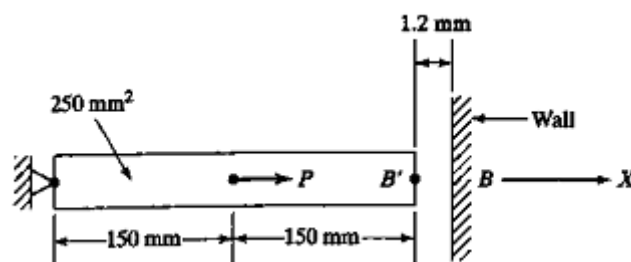

Figure 3 (b)
- b) In the figure 3 (b) shown, a load  $P = 60 \times 10^3$  N is applied. Determine the displacement field, stress and support reactions in the body. Take  $E = 20 \times 10^3$  N/mm2.